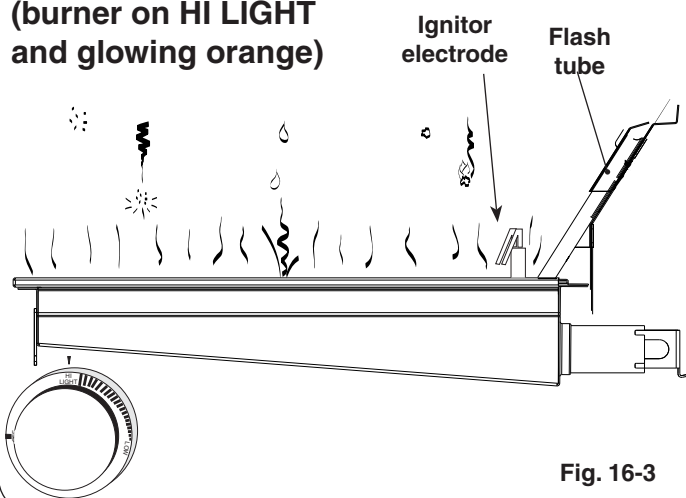

Fig. 16-3
- **DO NOT place food on the cooking grid until the IR burner glows orange (Fig. 16-3).** Drippings are heated and evaporate instead of sticking to and impairing burner function.